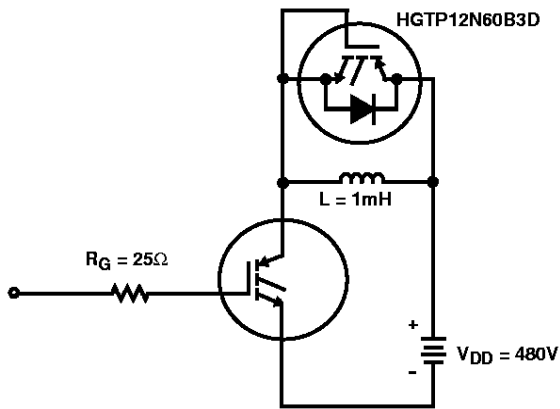

FIGURE 17. INDUCTIVE SWITCHING TEST CIRCUIT
| Current Turn-On Delay Time              | $t_{d(\text{ON})1}$  | IGBT and Diode at $T_J = 25^\circ\text{C}$$I_{CE} = I_{C110}$$V_{CE} = 0.8 BV_{CES}$$V_{GE} = 15\text{V}$$R_G = 25\Omega$$L = 1\text{mH}$Test Circuit (Figure 17) | -                         | 26  | -         | ns            |               |
| Current Turn-On Delay Time          | $t_{d(ON)I}$    | IGBT and Diode at $T_J = 150^\circ\text{C}$$I_{CE} = I_{C110}$$V_{CE} = 0.8 V_{CES}$$V_{GE} = 15\text{V}$$R_G = 25\Omega$$L = 1\text{mH}$Test Circuit (Figure 17) | -   | 22  | -                  | ns            |
- Values for two Turn-On loss conditions are shown for the convenience of the circuit designer.  $E_{ON1}$  is the turn-on loss of the IGBT only.  $E_{ON2}$  is the turn-on loss when a typical diode is used in the test circuit and the diode is at the same  $T_J$  as the IGBT. The diode type is specified in Figure 17.